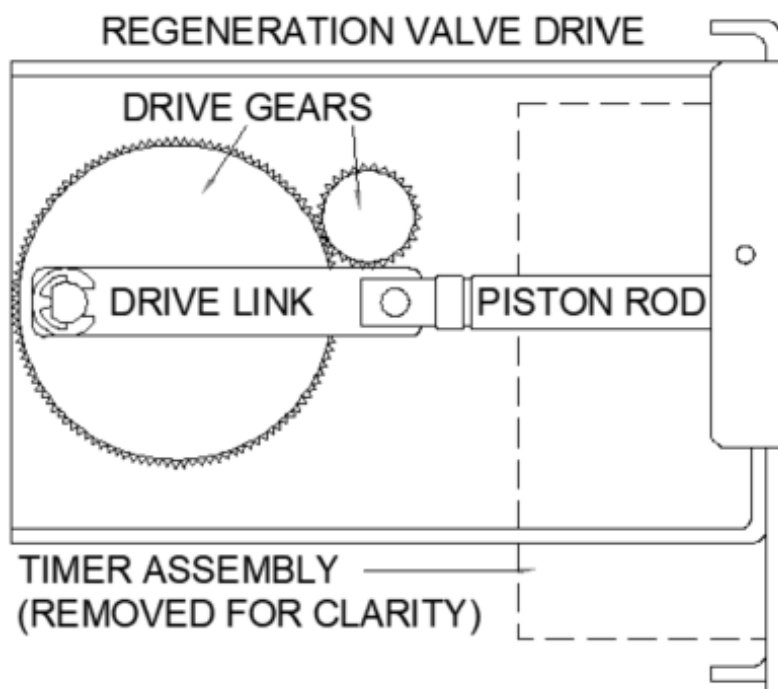

Fig. 7.1.2
-The drive gears move the drive link & piston rod / piston to the different regeneration positions. Figure 7.1.2 is in the service position.